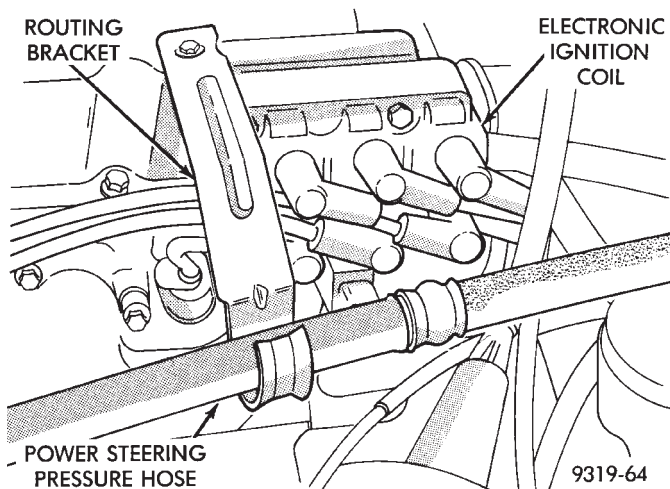

Fig. 3 3.3 ltr. Power Steering Pressure Hose Routing And Bracket
(4) Route power steering pressure hose through routing bracket on engine assembly. See (Fig. 3 and 4) for hose routing and bracket location for 3.3 and 3.5 ltr. engine applications.